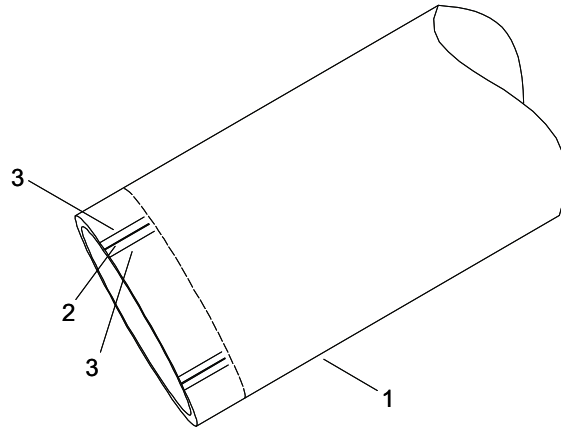

Figure 2. Hose Assembly Repair.
7. Using a knife, expose the ground wire (Figure 2, Item 2) by cutting the hose assembly (Figure 2, Item 1) fabric parallel to the length line (Figure 1, Item 3) previously marked not to exceed $\frac{1}{2}$ of the hose assembly thickness (be sure not to cut completely through the hose assembly fabric). Cut approximately $\frac{1}{4}$ in. (Figure 2, Item 3) on both sides of the length wise line (Figure 1, Item 3).